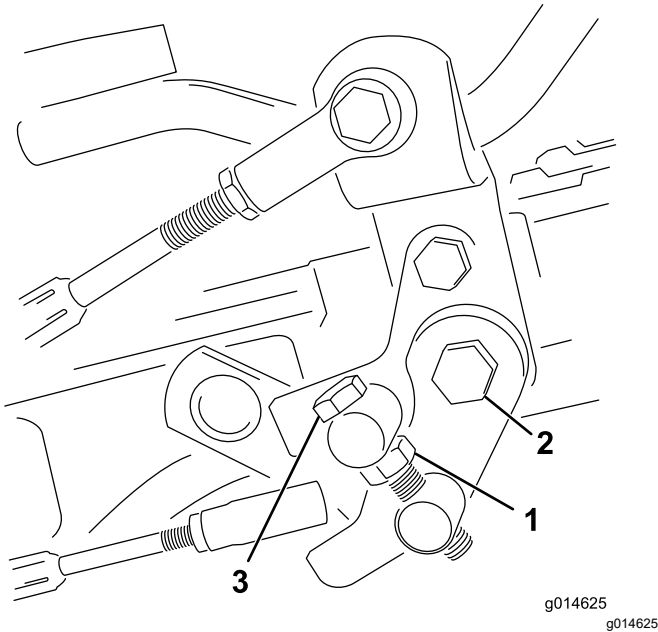

Figure 46
1. Loosen the jam nut on the trunnion bolt (Figure 46).
4. Tighten the jam nut on the trunnion bolt and the nut on the pedal pivot to lock the adjustment (Figure 46). Check the adjustment and adjust as required.